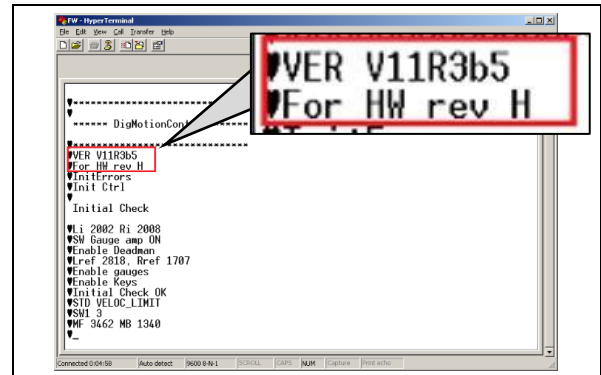

Figure 6: DMC boot log
- (11) Take a photo or screenshot of HyperTerminal where hardware and firmware are shown clearly (example see Figure 6).
- (12) Fill in the feedback form and upload the picture: Mandatory action # 2